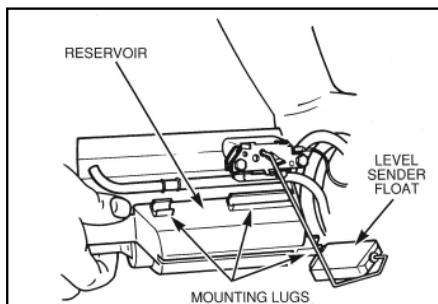
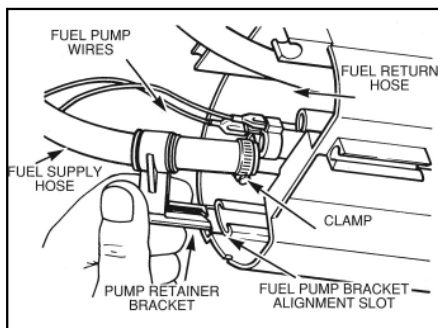

Fig. 2
Fig. 3
- A) Firmly grasping the very bottom of the coiled drain tube; unsnap the module reservoir from the coiled tubing, taking care not to damage the level sender (See Fig. 2). Move the reservoir away from the coiled tubing slightly and unsnap the pump retainer bracket (See Fig. 3) from the module reservoir. Move the module reservoir off to the side while sliding the pump out of it. Be careful not to damage the level sender wiring in the process.